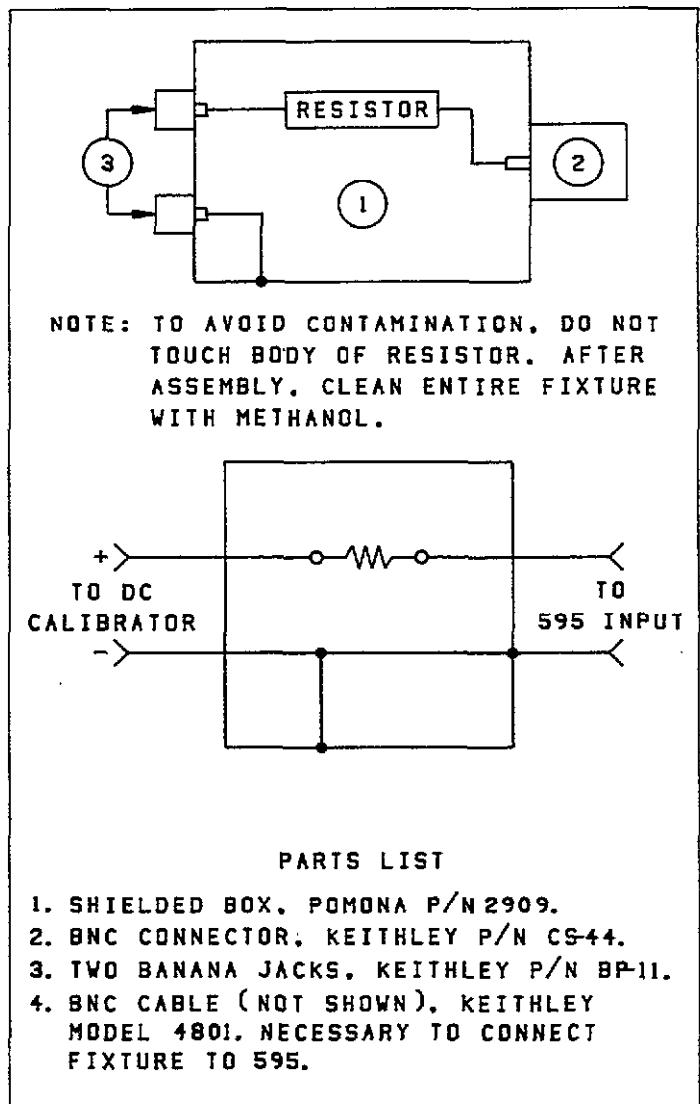
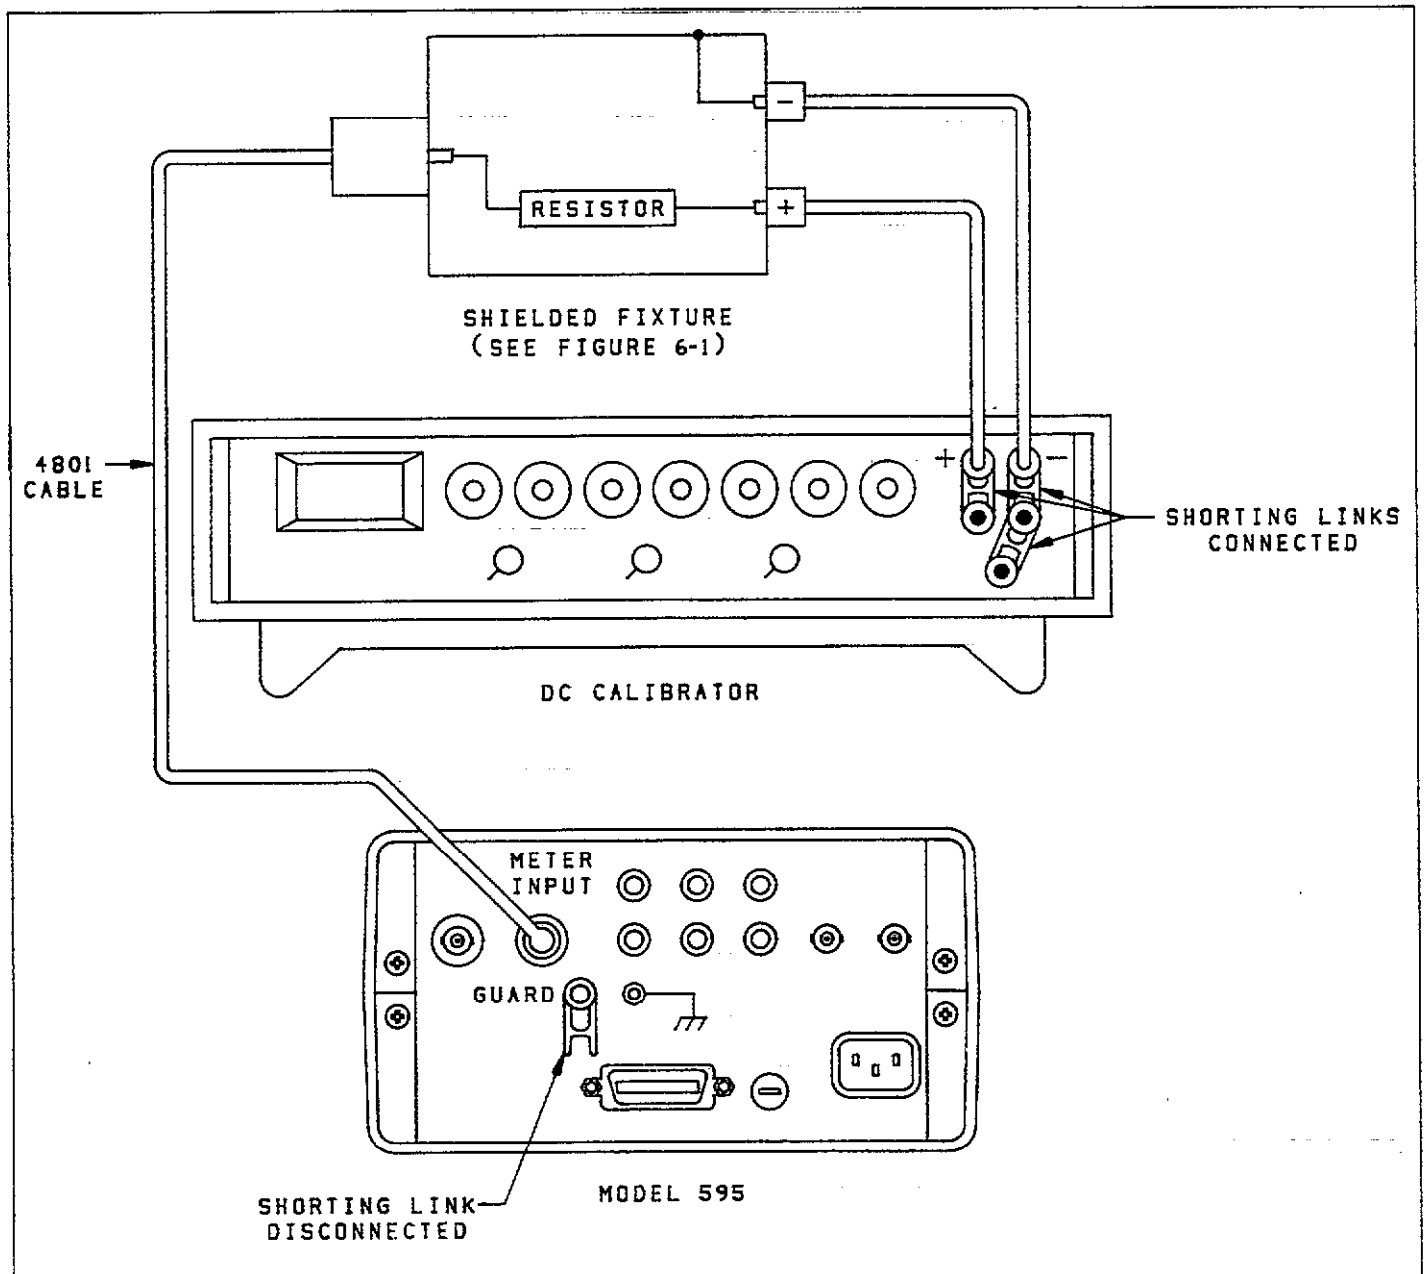

Figure 6-1. Test Fixture Construction.
Figure 6-3. Setup for Current Verification ( $20\text{pA}$  to  $20\text{nA}$  Ranges)
A shielded test fixture will be necessary for the current verification procedure. Construction of this shield is illustrated in Figure 6-1.
12. Mount the  $100\text{M}\Omega$  resistor in the shielded fixture (construction is covered in Figure 6-1) and connect the fixture to the instrument, as shown in Figure 6-3.